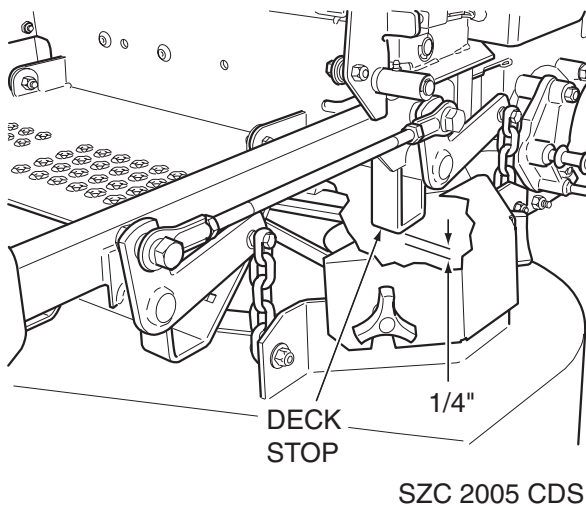

Figure 6-6. Cutter Deck Stop
2. Turn the control rod (See Figure 6-6) until there is a 1/4" space between the rear deck stop and the top of the cutter deck. (See Figure 6-6). Tighten the jam nuts on the control rod.